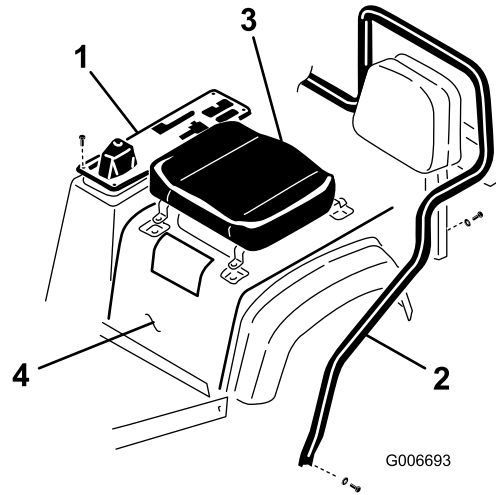

Figure 5
3. Remove (6) screws securing outside edge of center console cover plate to frame and remove cover plate (Figure 5).
4. Loosen (2) capscrews and locknuts securing front legs of seat frame to sides of vehicle floor (Figure 5).
5. Remove (2) capscrews and lockwashers securing seat frame brackets to vehicle frame (Figure 5). Pivot seat frame forward.
7. Remove (4) capscrews and lockwashers securing each set of seat brackets to vehicle frame and remove seat assemblies (Figure 5). Lift off skirt and fender assembly.